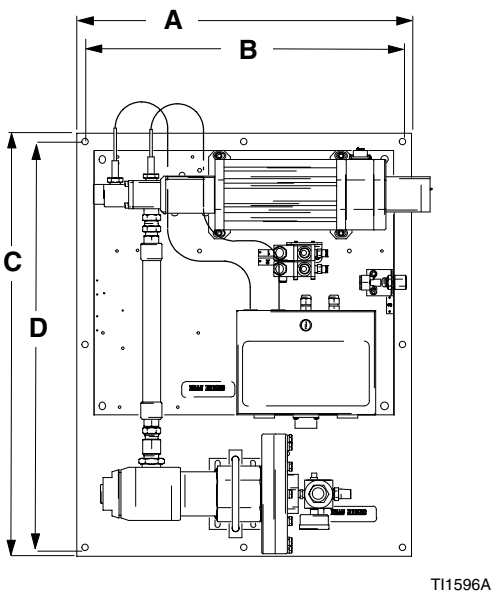

Fig. 9
4. See the mounting dimensions for models with a subplate and fluid inlet pressure regulator in Fig. 9.